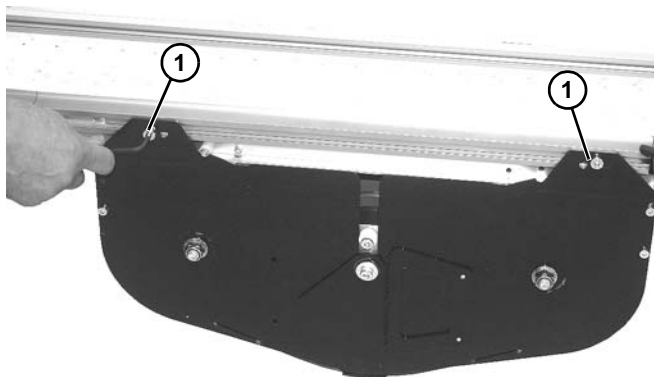

Figure 147
1. Remove two socket head screws (Figure 147, item 1) on each side securing assembly to frame.